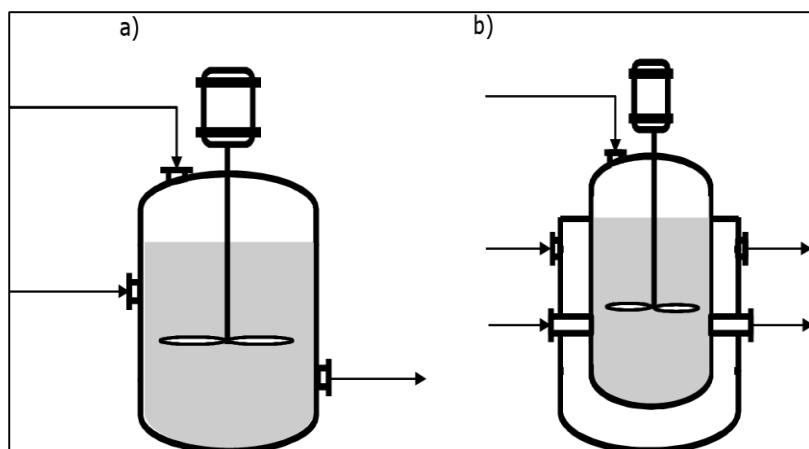

Figure 3: Chemical reactors: (a) Old configuration (b) New configuration
- (3). Figure 3(a) shows the illustration of a chemical reactor consisting of stirred tanks including stream for monomer, solvent, initiator, and product removal. The process has a total operational time of 6 hours at 180°C. However, an excessive exothermic reaction occurs that lead to thermal runaway. To solve this, a new setup is suggested as shown in Figure 3(b).
- (a). Define the type of reactors shown in Figure 3.
- (b). Discuss the new setup that has been done in Figure 3(b) and explain how the new setup could prevent excessive exothermic reaction.
- (4). Table 1 shows the rate constants for kinetics of free radical addition polymerization of polymer. It shows the values of the following rate constants,  $K_i$ ,  $K_p$ , and  $K_t$ , respectively. The concentration of propagation,  $[M]$  is  $10^{-3}$  mol dm $^{-3}$  and concentration of termination,  $[M_0]$  is  $10^{-3}$  mol dm $^{-3}$ .